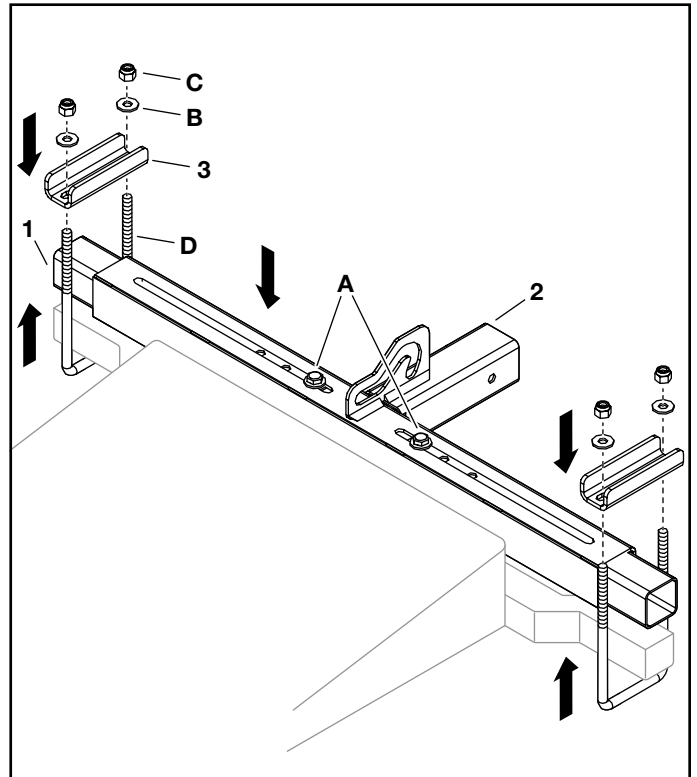

FIGURE 2
STEP 2: (SEE FIGURE 2)
- Attach the hitch mount assembly (2) to the tractor frame using two U-bolts (D) secured with two mounting brackets (3), four washers (B), and four Nyloc hex nuts (C). Do not tighten.
- If the slider tube does not fully extend into both U-bolts (D), then loosen the appropriate hex bolt (A) and reposition the slider tube (1).